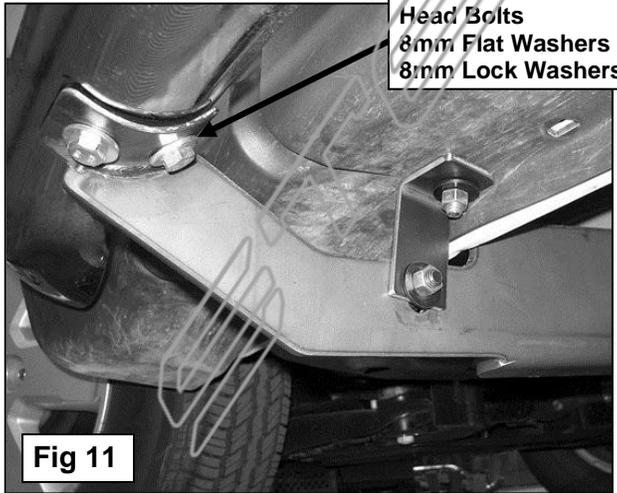

Fig 11
- 2008 Escape driver side rear Mounting Bracket installation only:** Use (1) 8mm x 25mm Hex Head Bolt, (1) 8mm Flat Washer, and (1) 8mm Lock Washer to attach the driver side Mounting Bracket to previously removed rubber plug location. You will not be using this 8mm bolt on the driver side of the Mazda Tribute or 09 Escape.
10. Carefully position the driver Sidebar onto the Mounting Brackets and secure using (4) 8mm x 25mm Hex Head Bolts, (4) 8mm Flat Washers and (4) 8mm Lock Washers, **(Figure 11)**. Snug but do not tighten hardware at this time.